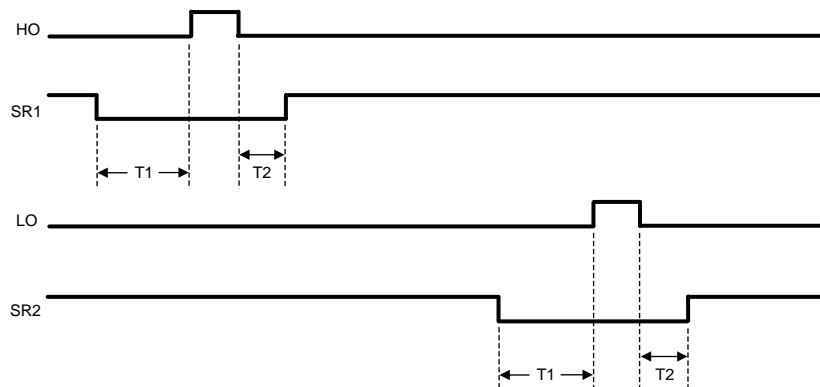

Figure 14. HO, LO, SR1, and SR2 Timing Diagram
Synchronous rectification (SR) of the transformer secondary provides higher efficiency, especially for low-output voltage converters. The reduction of rectifier forward voltage drop (0.5 V – 1.5 V) to 10 mV – 200 mV V_{DS} voltage for a MOSFET significantly reduces rectification losses. In a typical application, the transformer secondary winding is center tapped, with the output power inductor in series with the center tap. The SR MOSFETs provide the ground path for the energized secondary winding and the inductor current. Figure 14 shows that the SR2 MOSFET is conducting while HO enables power transfer from the primary. The SR1 MOSFET must be disabled during this period since the secondary winding connected to the SR1 MOSFET drain is twice the voltage of the center tap. At the conclusion of the HO pulse, the inductor current continues to flow through the SR1 MOSFET body diode. Because the body diode causes more loss than the SR MOSFET, efficiency can be improved by minimizing the T2 period while maintaining sufficient timing margin over all conditions (component tolerances, and so forth) to prevent shoot-through current. When LO enables power transfer from the primary, the SR1 MOSFET is enabled and the SR2 MOSFET is off.
The timing of SR1 and SR2 with respect to HO and LO is shown in Figure 14. SR1 is configured out of phase with HO and SR2 is configured out of phase with LO. The dead time between transitions is programmable by a resistor connected from the DLY pin to the AGND pin. Typically, R_{DLY} is set in the range of 10 k Ω to 100 k Ω . The dead-time periods can be calculated using Equation 4 and Equation 5.
The R_{DLY} resistor programs the delays between the SR1 and SR2 signals and the HO and LO driver outputs. Figure 14 shows the relationship between these outputs. The DLY pin is nominally set at 2.5 V and the current is sensed through R_{DLY} to ground. This current is used to adjust the amount of dead time before the HO and LO pulse (T1) and after the HO and LO pulse (T2). Typically R_{DLY} is in the range of 10 kΩ to 100 kΩ. The dead-time periods can be calculated using Equation 7 and Equation 8.